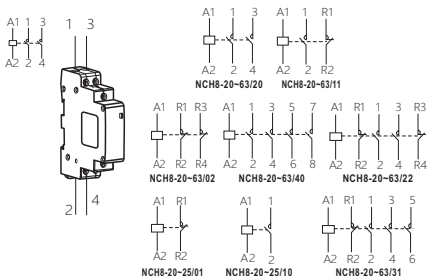

Figure 4 NCH8 connection method
3) Wire selection and connection method: applicable to copper wire connection, please refer to Table 3 below for wire category, sectional area, strip length and tightening torque, see Figure 4 below for connection method.